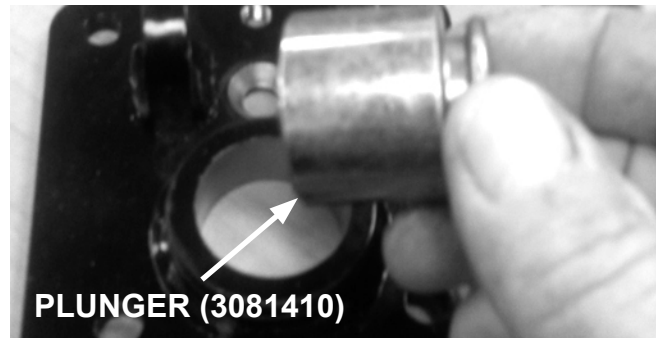

Figure 4 (New Plunger Install)
5. Apply lubricant (NGLI 1 to 1.5 lithium-based EP obtained locally) to the new plunger (3081410). Install the new plunger into the brake pedal bracket (See Figure 4).